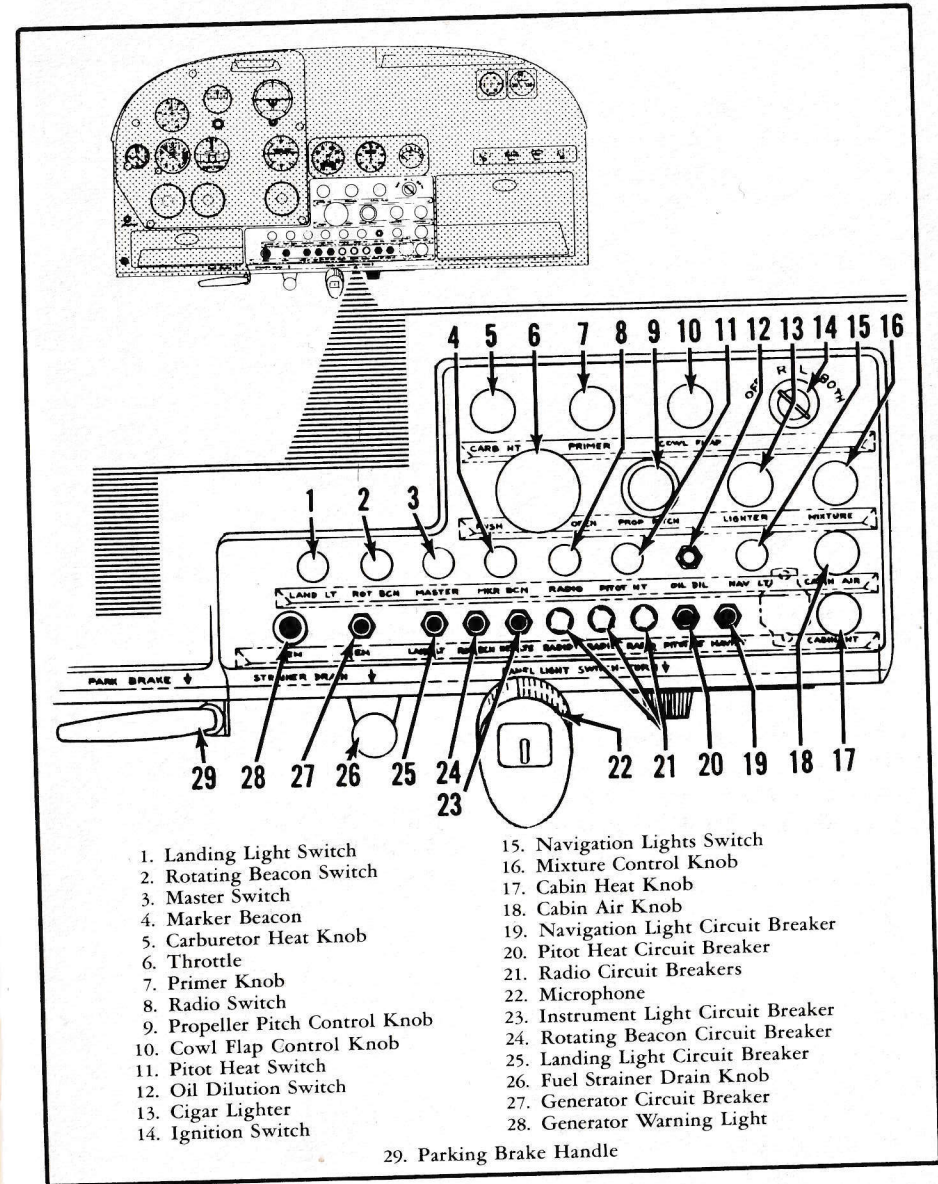

Figure 1-2. Control and Switch Panel
18. Control Panel (See Figure 1-2)
The throttle (figure 1-2) incorporates a knurled, friction-type locknut to secure it at any desired setting.
The mixture control (figure 1-2) has a double-button knob with a friction lock to prevent inadvertent leaning or shutting off the fuel supply. To operate the control, grasp the knob between the thumb and two fingers and squeeze the buttons together, releasing the lock. Then push the knob in for rich mixture or pull it out for lean mixture. Release pressure on the knob to lock the control.
The carburetor air heat control knob (figure 1-2) operates a butterfly valve in the carburetor air intake. The valve proportions cold air from the air scoop and hot air from the exhaust heater muff to maintain proper carburetor air temperature. The push-pull control has a double-button knob with a friction lock, identical to the mixture control. To increase the carburetor air temperature, pull the control out; to decrease it, push the control in. The control may be set in any desired position between full-hot (full out) and full-cold (full in).
The key-operated ignition switch (figure 1-2) controls the dual-magneto ignition system. The four switch positions are "OFF," "R," "L" and "BOTH." Always operate the engine on both magnetos. Combustion is smoother and more complete when the cylinder charge is fired at two points. The "R" and "L" switch positions are for checking purposes only.
The engine primer knob (figure 1-2) operates a plunger-type pump which injects a charge of raw fuel into the cylinder intake ports. Normally, at least two strokes of the primer are necessary to start the engine even in warm weather.
The cowl flaps control (figure 1-2) has a thumb-button lock and may be set in any position required for proper engine cooling. Pulling the control out opens the cowl flaps; pushing it in closes them. The lock releases when the thumb button is pressed in.
The propeller control knob (figure 1-2) changes the setting of the propeller governor to control engine speed. The knob incorporates a friction lock and a vernier screw for close adjustments. With the control knob full in, the propeller is in the high rpm position; pulling the control out places the propeller in low rpm. The control may be moved through its full range by depressing the locking button in the center of the knob, while close adjustments are made by rotating the knob, clockwise to increase rpm or counterclockwise to decrease it. The knob may be rotated without depressing the locking button.
A fuel strainer drain knob marked "STRAINER DRAIN" (figure 1-2) below the instrument panel provides a quick, convenient method of draining water and sediment that may have collected in the fuel strainer. The fuel strainer is located in the lower aft section of the engine compartment just forward of the firewall.
Power to the bus, from which all electrically-operated equipment is supplied, is controlled by the master switch (figure 1-2). The switch opens and closes the operating circuit of the battery solenoid and the field circuit of the generator.
A red generator warning light (figure 1-2) labeled "GEN", gives an indication of generator output. It will remain off at all times when the generator is functioning properly. The light will not show drainage on the battery. It will illuminate: when the battery or external power is turned on prior to starting the engine; when there is insufficient engine rpm to produce generator current; and when the generator becomes defective.